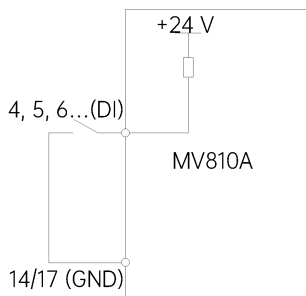

Figure 4-17 Wiring when using the internal +24 V power supply of the drive
(2) P09.11 = 1 (set the digital terminal open-circuit voltage to 24 V)
- ① Dry contact mode, as shown in Figure 4-17.